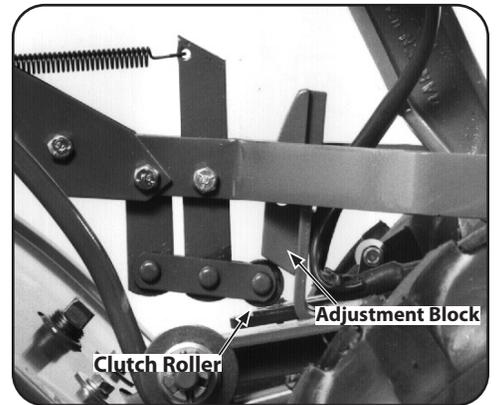

Figure 3-11
7. Test the operation of the Wheels/Tines/PTO Drive Lever. Push the lever down until it engages in the Forward position. The clutch roller must rest beneath the adjustment block. Next, move the lever up to the Neutral position. See Figure 3-11.